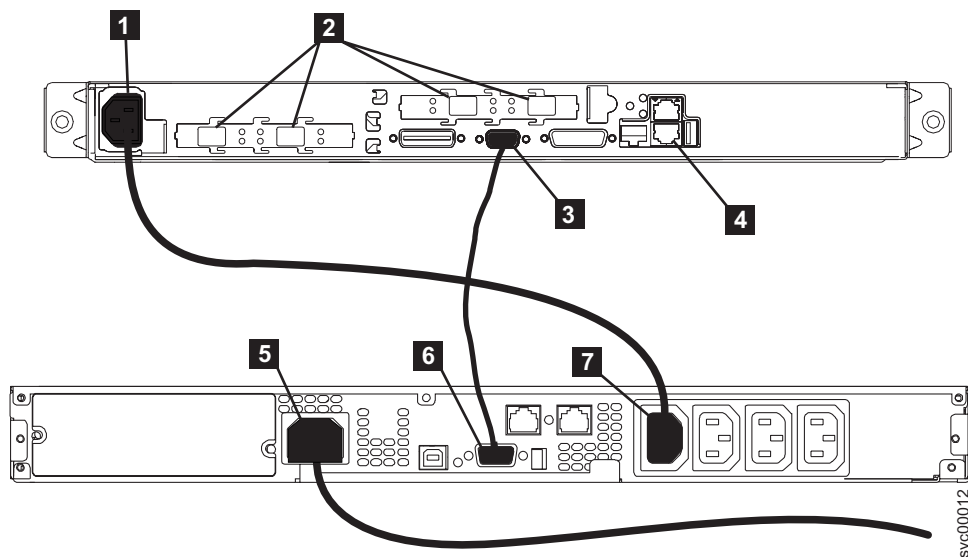

Figure 28. Connecting the SAN Volume Controller power cable to the uninterruptible power supply
1. At the back of the SAN Volume Controller, plug a power cable into the power connector **1**. See Figure 28.
2. Place the free end of the SAN Volume Controller power cable into the Load segment 1 receptacle **7** on the UPS 5115. See Figure 28.
3. Plug the signal cable into the serial connector **3** located on the SAN Volume Controller. See Figure 28.
4. Place the free end of the SAN Volume Controller signal cable into the Communication port **6** on the UPS 5115. See Figure 28 on page 52.